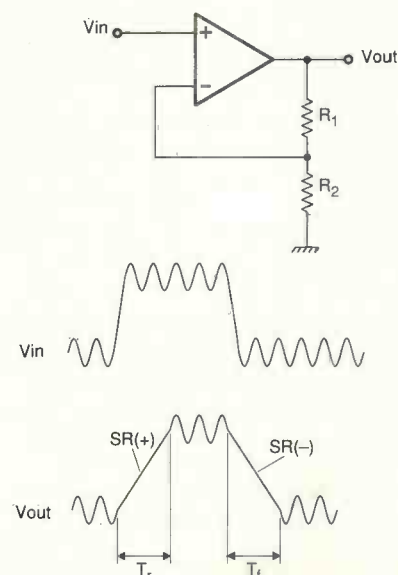

Fig. 1. The phenomenon of slew rate and transient intermodulation in a feedback amplifier.
**Fig. 1. (left) Comparison between measurements made via Tektronix P6021, top trace, and the low-cost alternative, bottom trace, show little difference in performance with scaling at 100ns/cm versus 5A/cm.**
When an amplifier is overdriven by a large signal pulse or square wave with a fast enough rise/fall time, the output is generally not capable of following the input immediately, Fig. 1. Output slews at a finite rate, determined by internal currents and capacitances. Note that amplifiers incorporating inductors are not considered in this discussion.
As shown in Fig. 1, positive  $SR(+)$  and negative  $SR(-)$  slew rates are usually different, mainly due to the fact that positive/negative currents available at the node are different.
In Fig. 1, the sinusoidal signal superposed to the step input voltage is not present at the output during slewing times  $T_r$  and  $T_f$ . This phenomenon is the major cause of transient intermodulation distortion in audio amplifiers.